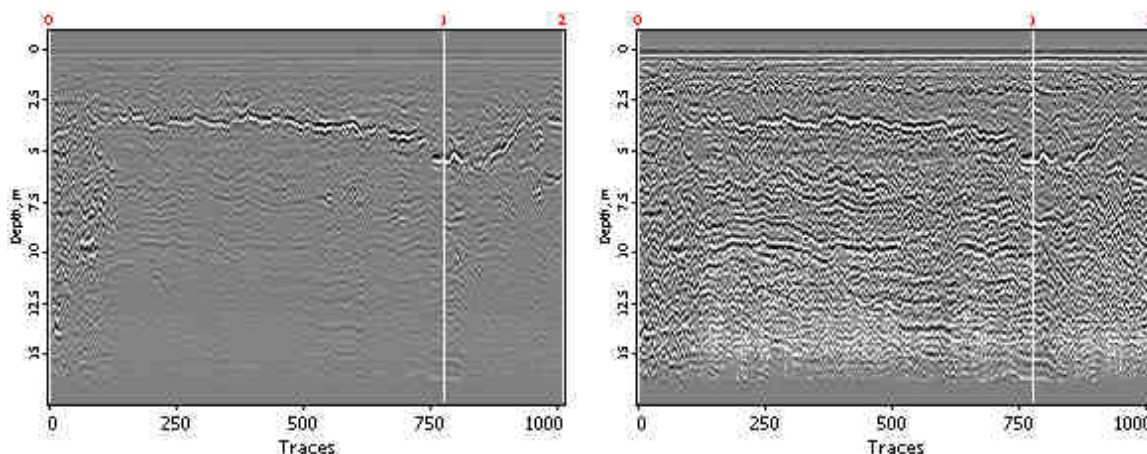

Fig. 11.3. Example of automatic gain control procedure effect.
- ❑  **AGC - Automatic gain control** – automatic signal gain within the width of the window in each separate trace. Used for leveling all signals in a trace. As a result, after processing, the profile is like one shown in Fig. 11.3.